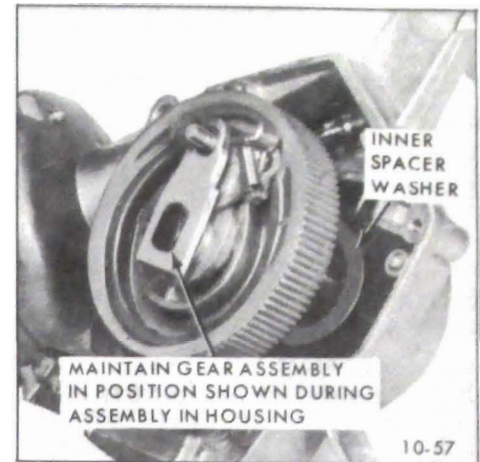

Figure 10-45 Removing or Installing Gear Assembly
2. Slide drive shaft and gear assembly out of housing. See Figure 10-45.
6. Assemble inner spacer washer over gear shaft and assemble gear mechanism in housing so that it is positioned with respect to the housing in the approximate location shown in Figure 10-45.